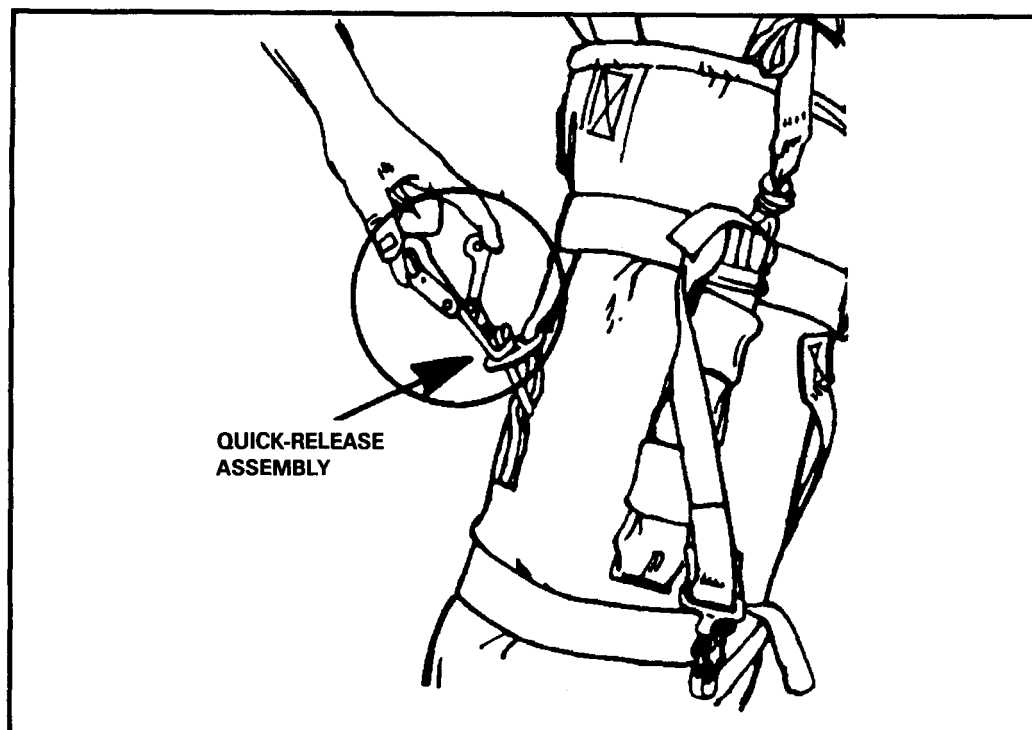

Figure 12-38. Quick-release assembly.
(6) Position the DMJP on the honeycomb and tighten the launcher aft end bridle securing strap. Secure its running end by folding it back under the corresponding quick-fit adapter.
(7) Tighten the three horizontal securing straps as evenly as possible around the weapon(s).
(8) Attach the quick-release assembly to the pack (Figure 12-38, page 12-42).